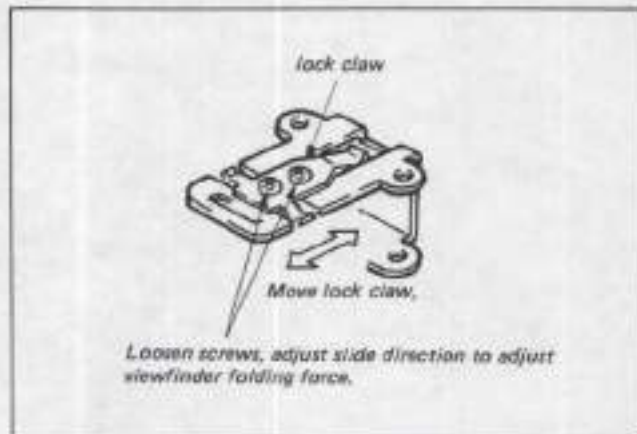

Fig. 2-35
- 1) Loosen the screw holding the lock claw and adjust the folding force of the viewfinder. (Fig. 2-35)